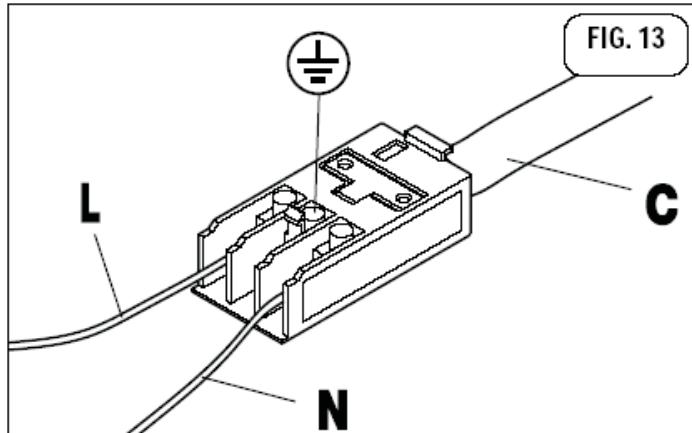
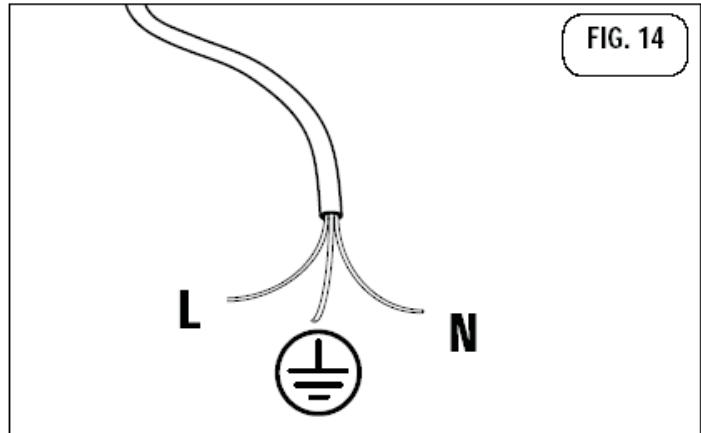

FIG. 13
FIG. 14
- Fit to the power cable (C)(if without – fig. 13) a standardized plug, suitable for the load which is indicated on the data label. Connect the wires making sure they correspond as shown below, and remember that the **earth wire must be longer than the phase wires** (fig. 14):